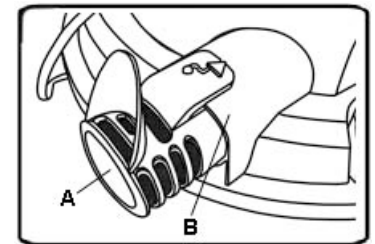

Figure 6
- 1) Install the noise diffuser (A) Fig.6 into the blower outlet (B) by inserting the locking end and turning clockwise to lock it in place.